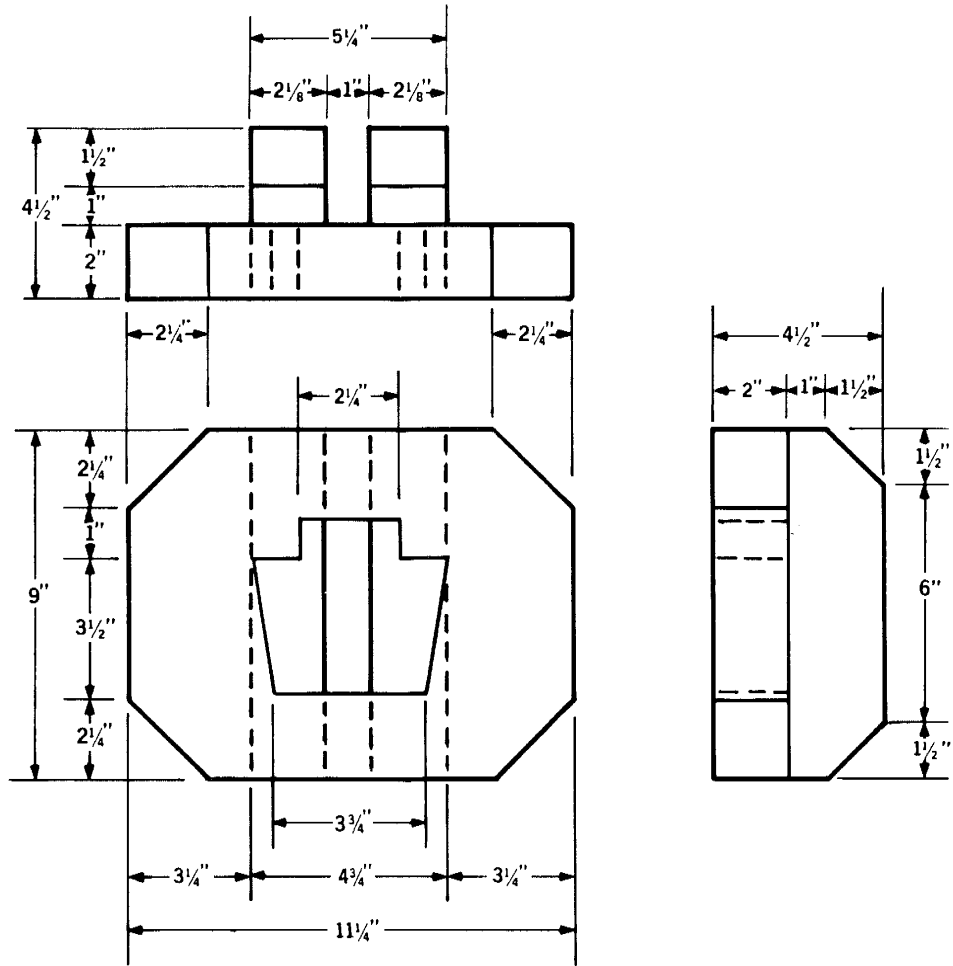

Figure 6-3. SR1030 Packing Material Dimensions
3. Ensure the SR1030s are properly packaged. A packing box must be constructed to hold the SR1030 without risk of physical damage to the resistors. An example of the SR1030's original packing box and material is shown in Figures 6-3 and 6-4. The packing material is made from 1.7 PCF Polyethylene.